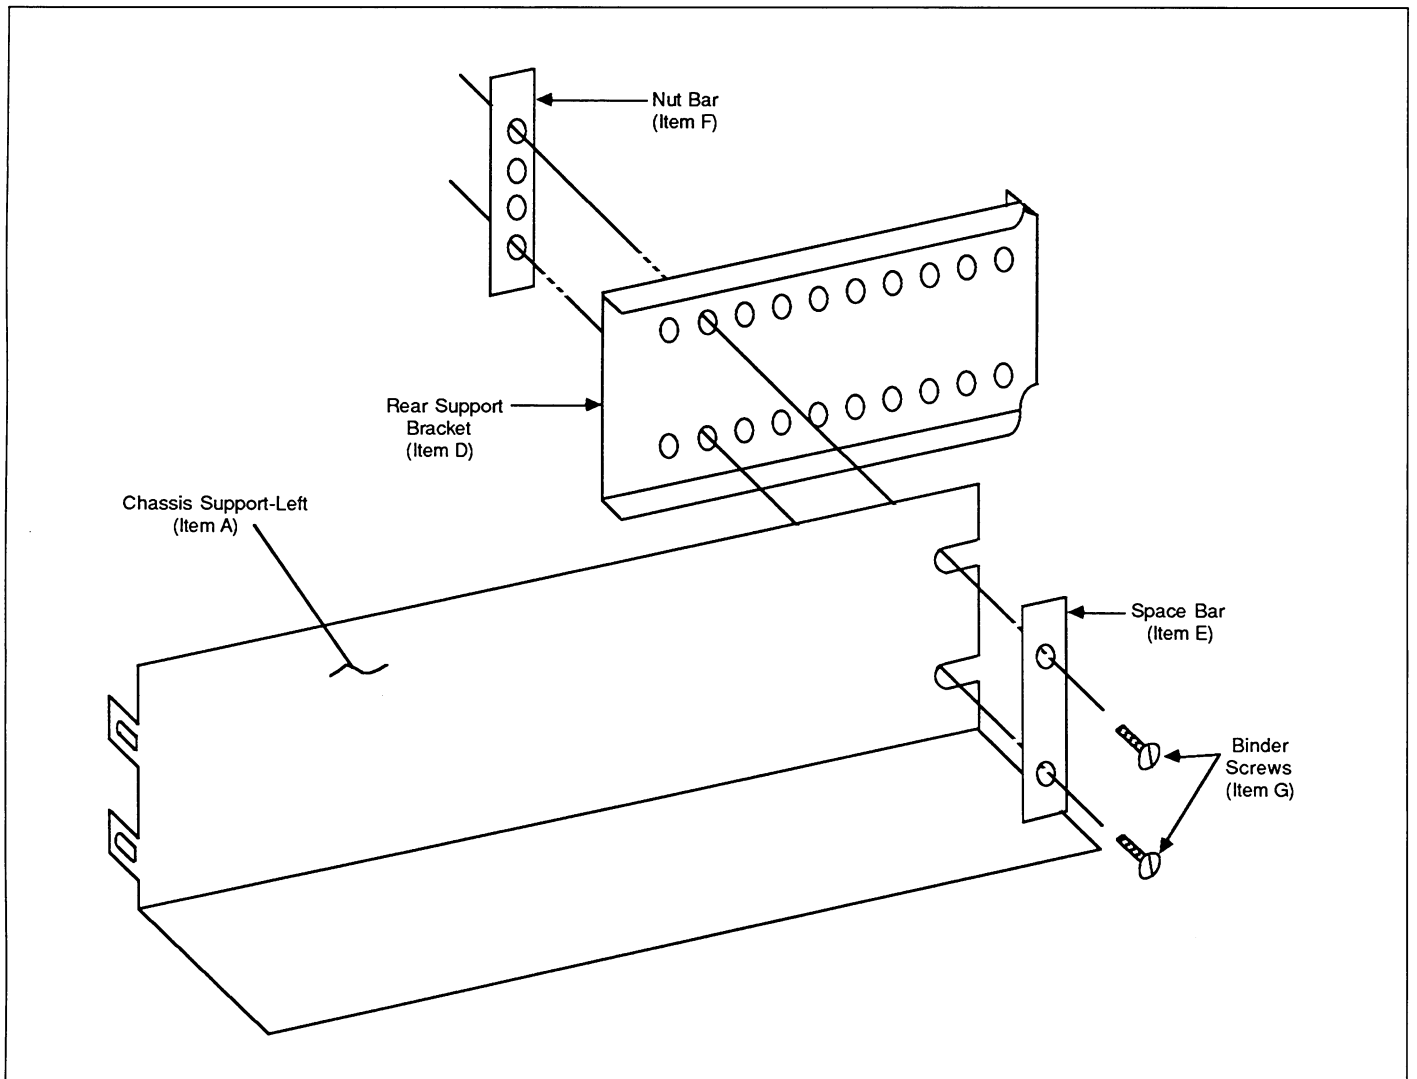

Figure 6-5. Chassis Support Assembly
5. Use a spacer bar, nut bar, and two binder head screws (items E, F, and G) to loosely attach each rear support bracket to a chassis support. Figure 6-5 shows the left side support.